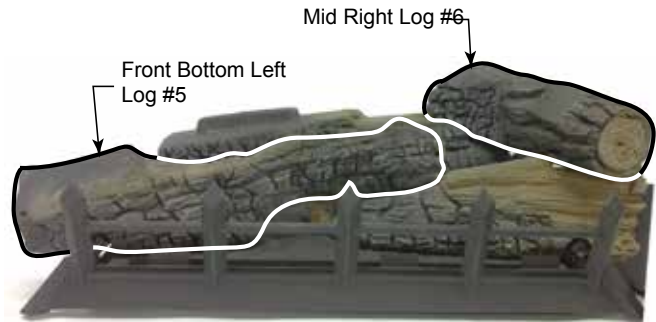

Figure 4
5. Place front bottom left log (#5) on left pin located on burner and left grate bar. The right side of the log should rest on log #4. Figure 4
6. Place mid right log (#6) on bottom rear log (#1) and front bottom right log (#4) by placing notch on bottom of log on locating block on log #1. Place front of log in notch of log #4. Figure 4